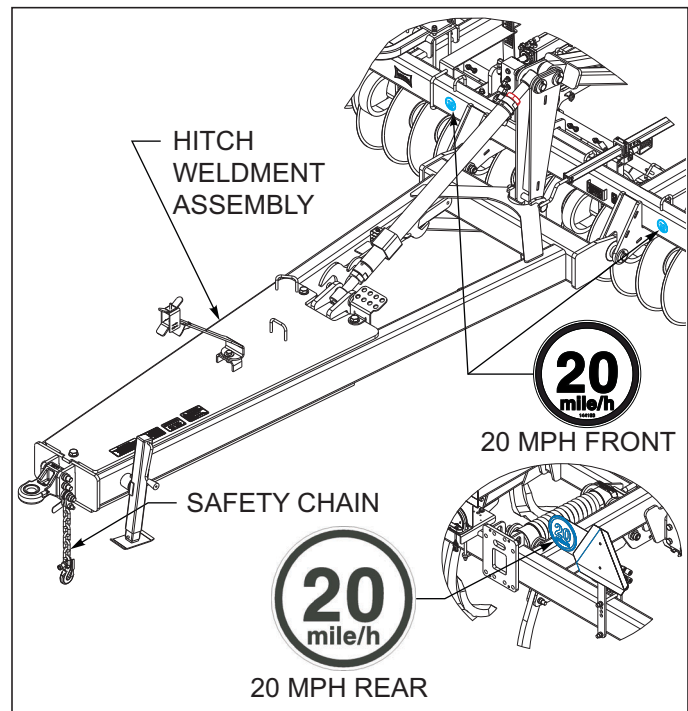

Figure 4-11: Hitch, Speed Identification Symbol, and Safety Chain
2. The 2132 Coulter Chisel should be transported only by tractor required for field operation. The implement weight should not exceed more than 1.5 times the tractor weight. Unless noted on the implement, maximum transport speed is 20 mph for the implement. See Figure 4-11. Slow down when driving on rough roads. Reduce speed when turning, or on curves and slopes to avoid tipping.
- b. Attach the safety chain to the tractor drawbar. See Figure 4-11. Provide only enough slack in the chain for turning. Do not use an intermediate chain support as the attaching point for the chain on the tractor. Do not pull the implement by the safety chain.